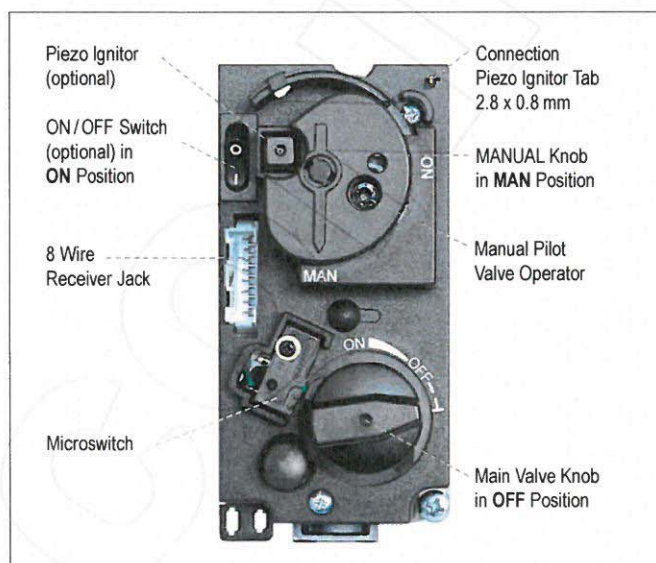

Figure 32: Combination control, cover
5. Wait five (5) minutes to clear out any gas. Verify that no gas is in the area around the appliance, including near the floor. **If you detect gas STOP! Follow "WHAT TO DO IF YOU SMELL GAS" in the safety information on page 2.** If no gas is present, proceed to step 6.
6. Place ON/OFF switch (if equipped) in **I** (ON) position.
8. Fully push down manual pilot valve operator and hold in, to start pilot gas flow (see figure 32).